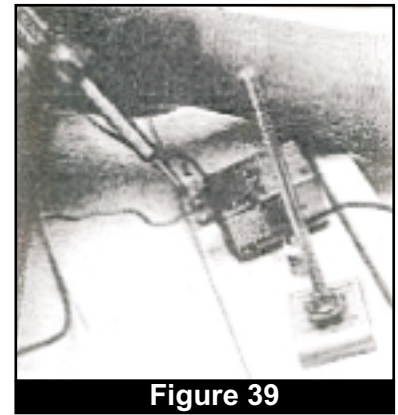

Figure 39
****NOTE: The tops of the terminals should face down (toward actual top of the heating module). (Fig. 39)**